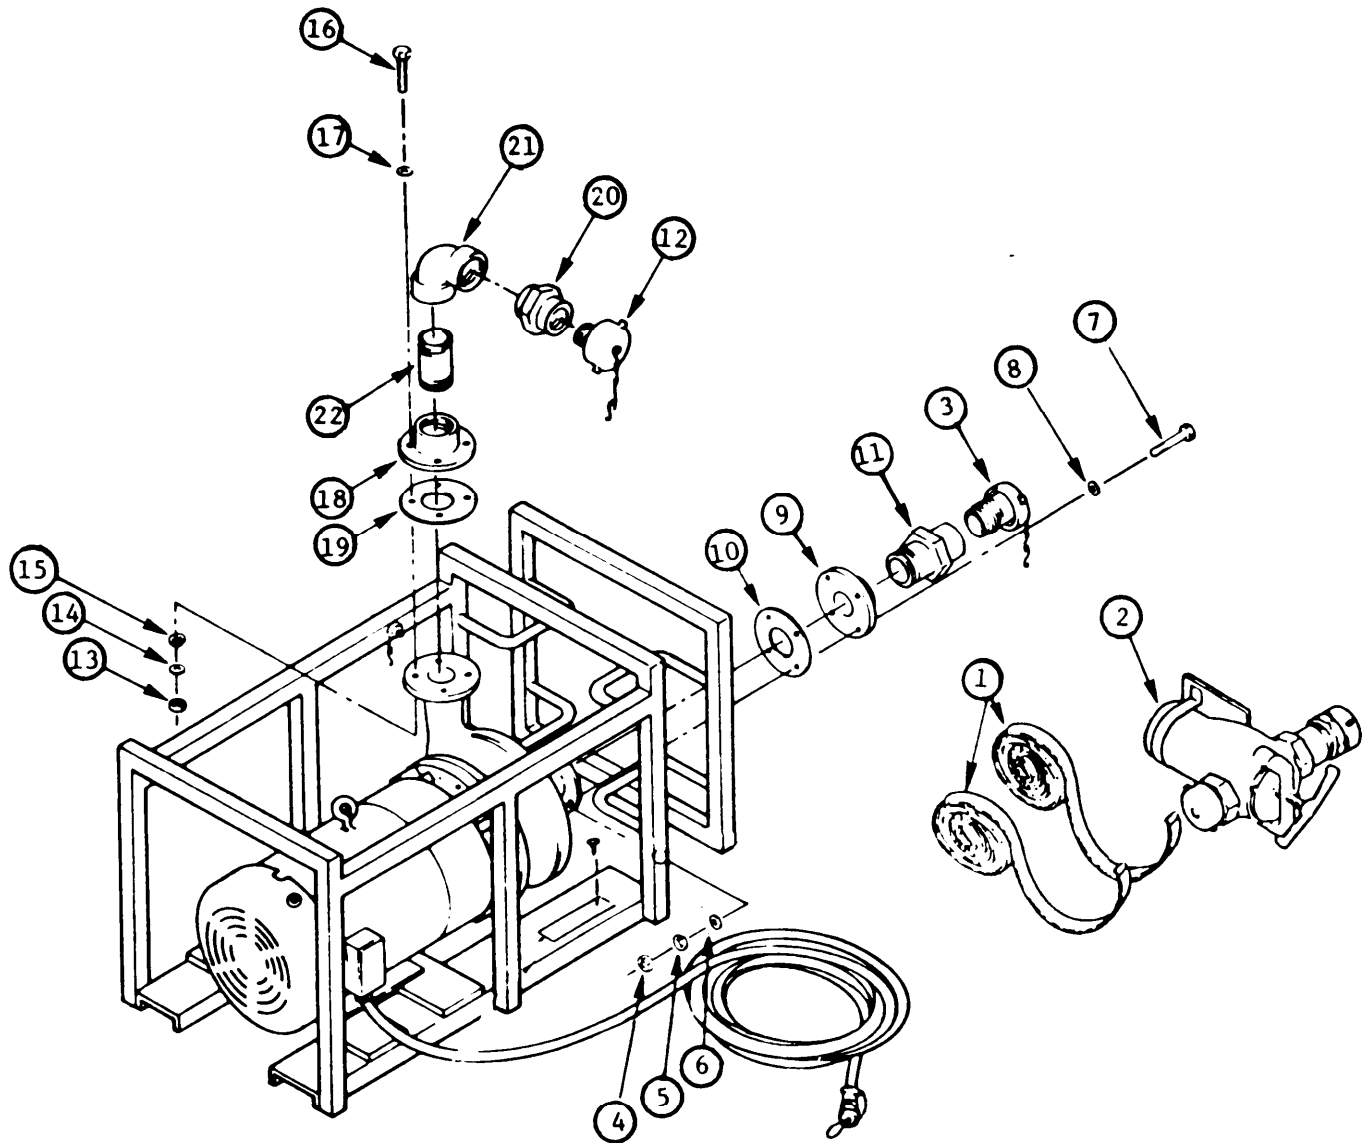

Figure 2-89. Backwash Pump Suction and Discharge Assembly
b. Removal. (Figure 2-89)
- (1) If necessary, remove two straps (1) and backwash strainer (2) from backwash pump.
- (2) Unscrew hose plug (3) and let it hang.
- (3) Remove four nuts (4), four lockwashers (5), and four flat washers (6) from bolts (7).
- (4) Remove four bolts (7) and four flat washers (8) from backwash pump and flange (9).
- (5) Remove flange (9) and gasket (10) from backwash pump and discard gasket.
- (6) Remove adapter (11) from flange (9).
- (7) Unscrew hose plug (12) and let it hang.
- (8) Remove four nuts (13), four lockwashers (14), and four flat washers (15) from bolts (16).
- (9) Remove four bolts (16) and four flat washers (17) from backwash pump and flange (18).
- (10) Remove flange (18) and gasket (19) from backwash pump. Discard gasket (19).
- (1) Replace damaged nuts, bolts, screws, and washers.
- (2) Replace damaged flanges, nipples, adapters, and pipe fittings.
- (3) Replace all gaskets.
- (4) Repair backwash pump assembly and backwash strainer in accordance with paragraph 2-41.
- (5) Repaint and reinstall pump assembly in accordance with Standard Operating Procedures.
f. Installation. (Figure 2-89)